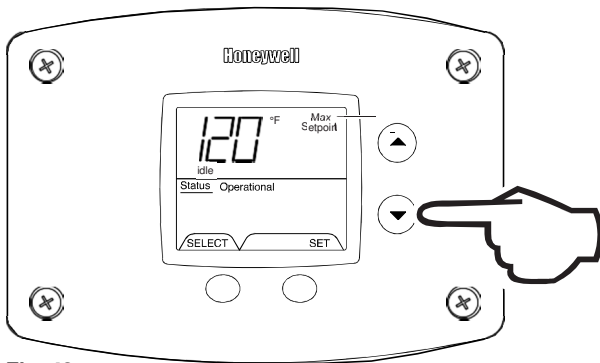

Fig. 42
3. Press the 'UP' or 'DOWN' buttons to change the maximum setpoint value. This will limit the maximum setpoint the user can select. Note: The maximum setpoint is approximately 82C (Fig. 42).